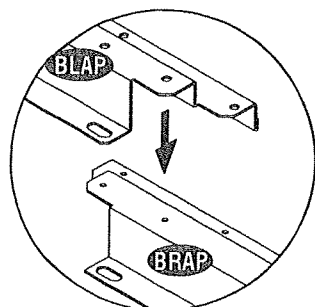

Fig.1
5. Assemble base bar back left (BLAP) and base bar back right (BRAP) with four (S7) screws. See fig. 1 & 2.